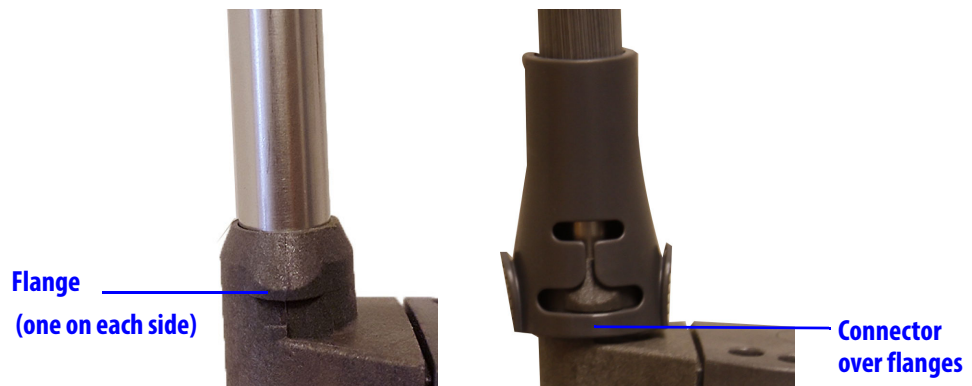

Figure 2.4 Connector over the flanges on the base of instrument shaft
- Press down the connector on the sheath until it is over the flanges on the base of the camera shaft, and there is a tactile and audible click (Figure 2.4).